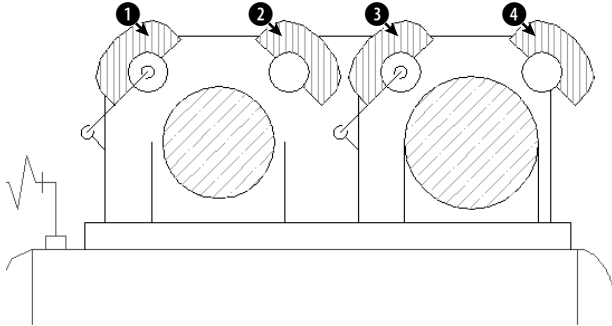

**Figure 16-26:** The result after editing the two hatches.
4. You're now back in your drawing. Pick the two large circles in Figure 16-26. Right-click and choose Preview. Press Esc to return to the dialog box. Click OK to create the hatch and end the BHATCH command.
6. Choose Add: Pick Points. In your drawing, pick points **1**, **2**, **3**, and **4** in Figure 16-26. Right-click and choose Preview. Right-click again to create the hatch and end the BHATCH command.
8. Double-click one of the hatches at the top of the model. Notice that this action selects all of the hatches because they were created with one command. In the Hatch Edit dialog box that opens, change the angle to 90 and the spacing to 0.04. Click OK. Your drawing should look like Figure 16-26.